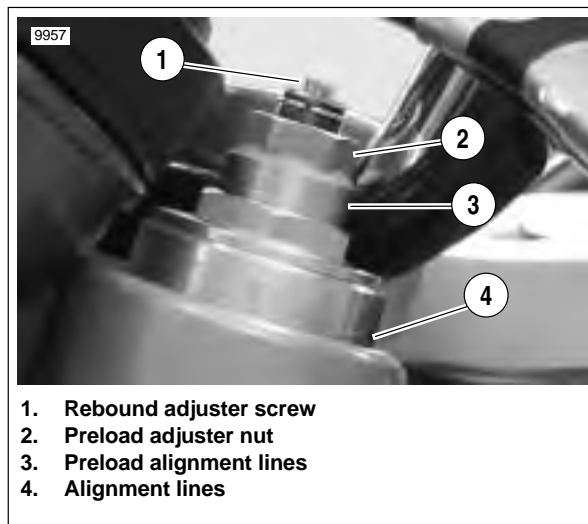

Figure 2-76. Front Fork Preload And Rebound Adjuster
4. See Figure 2-76. Position fork with alignment lines (4) visible and reflector facing to the side and tighten the lower fork clamp.
9. See Figure 2-76. Position both forks with same number alignment lines (4) visible and reflectors facing to the sides. Do not tighten.